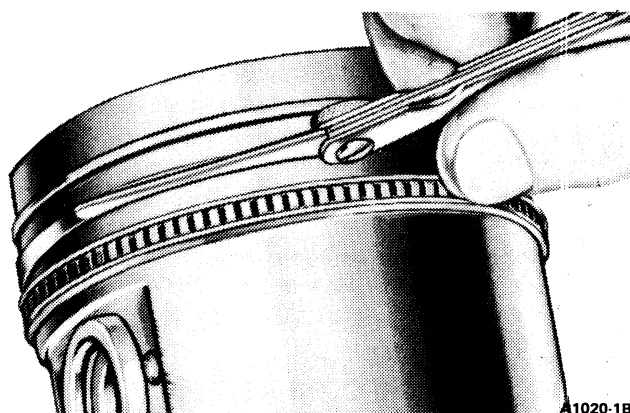

FIG. 28 Checking Piston Ring Side Clearance
6. Check the ring side clearance of the compression rings with a feeler gauge inserted between the ring and its lower land (Fig. 28). The gauge should slide freely around the entire ring circumference without binding. Any wear that occurs will form a step at the inner portion of the lower land. If the lower